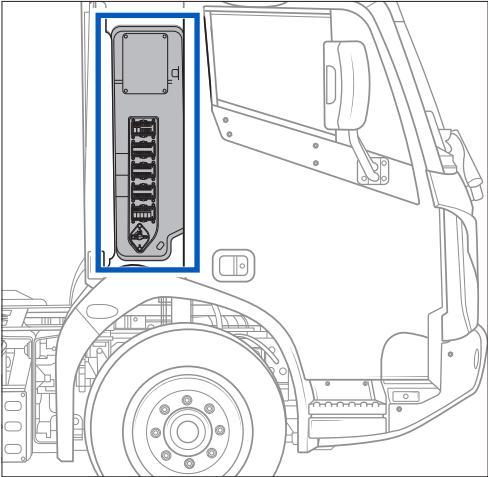

Figure 12 - Accessory compartment
5. Pull the handle and open the accessory compartment access panel located at the back of the cabin, on the right side of the truck (**Figure 12**).